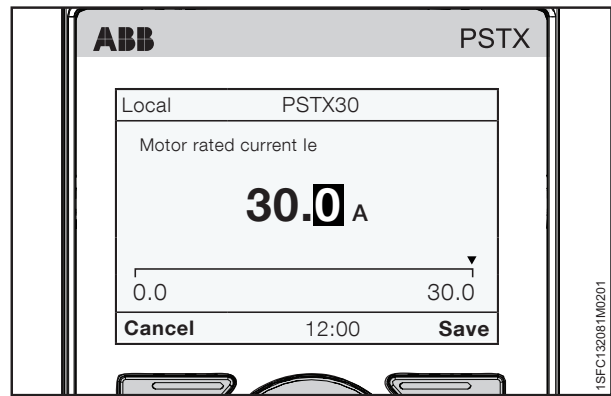

Figure 6.9
1. The Home view is the top level. Push  "Menu" to enter the menu. The screen now appears as in **Figure 6.9**.
6. Use  and  to select number, the current selected number is highlighted black. Then push  or  to change the value of the selected number. Save the new setting by selecting  "Save". See **Figure 6.9**. If you want to quit, you select  "Cancel".